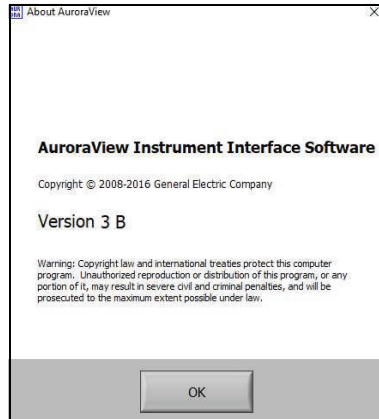

Figure 40: Software information
6. Click Help (see Figure 40 below).